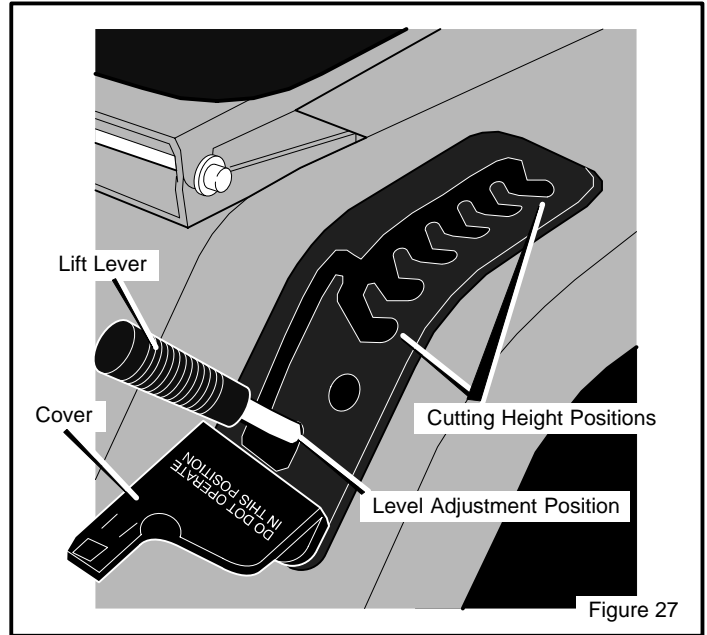

Figure 27
5. Move the **lift lever** to the LEVEL ADJUSTMENT position (Figure 27).